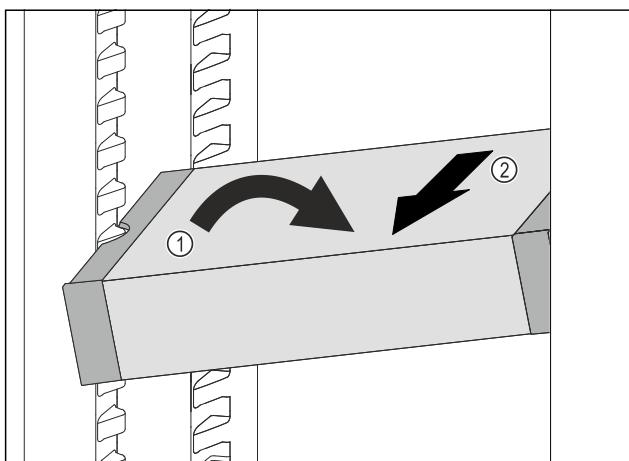

Fig. 98
- ▶ Set VarioSafe in refrigerator compartment at an angle. Fig. 98 (1)
- ▶ Take VarioSafe out to the front. Fig. 98 (2)